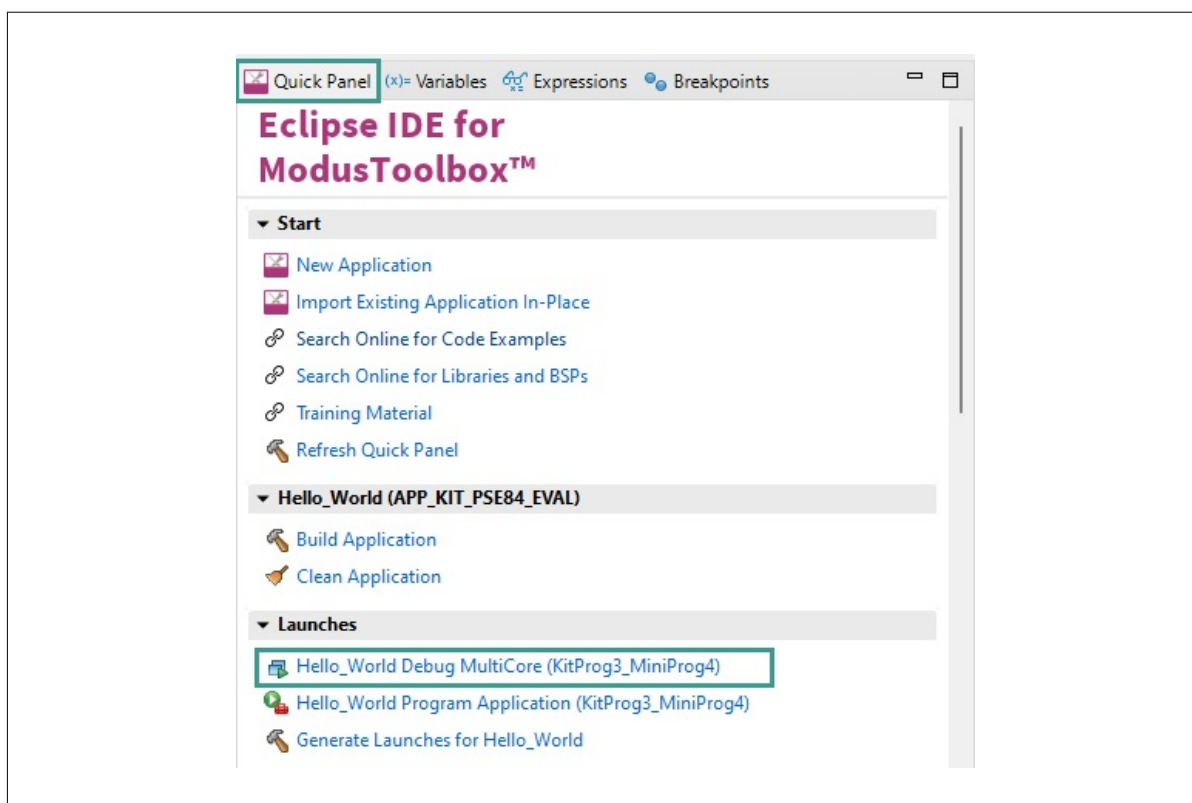

Figure 18 Debugging in ModusToolbox™ software
5. ModusToolbox™ software has an integrated debugger. To debug a PSOC™ E84 MCU application, in the Project Creator, select project. In the Quick Panel, scroll to **Launches** section and click the **<App_Name> Debug (KitProg3_MiniProg4)** configuration as shown in Figure 18. For more details, see the “Program and debug” section in the Eclipse IDE for ModusToolbox™ user guide